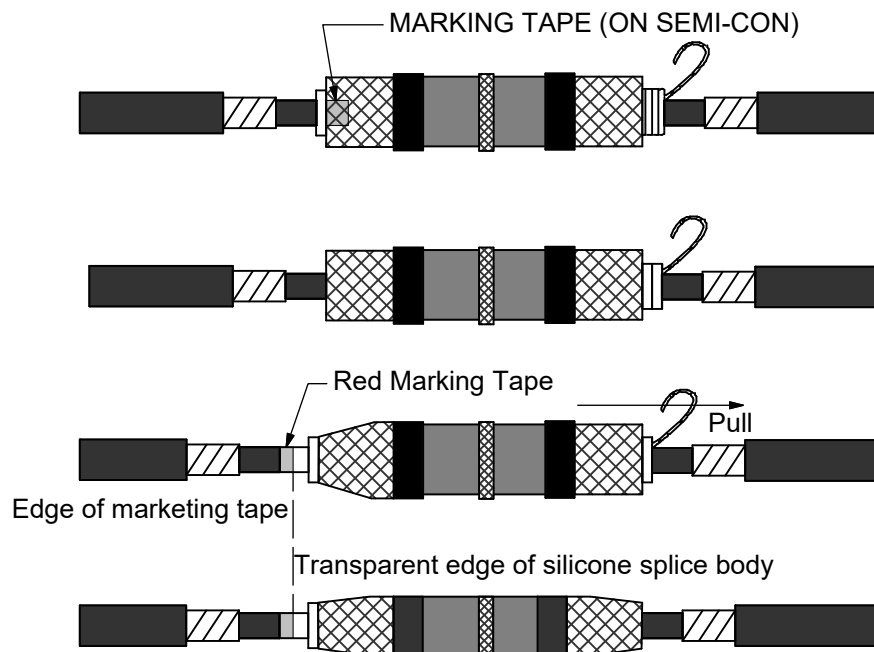

Figure 7
- C. Remove the spiral holdout (core) by pulling the release strip counterclockwise while holding the splice body in place. The spiral holdout cannot be pulled out all at once. Slowly pull the spiral holdout on top of the cable and then pass it around and underneath the cable until the spiral holdout has been completely removed. Once the splice is partially shrunk adjacent to the marking tape, there is no need to hold the splice. Use two hands at this point to remove the remaining spiral holdout. (See Figure 7.)